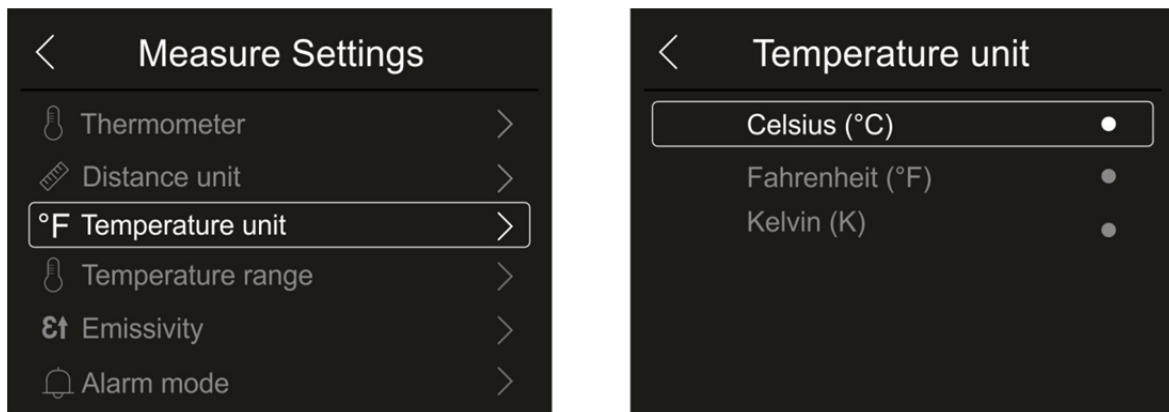

Fig. 25: Menu Setting the temperature measuring unit
1. Touch the item “Temperature unit” to set the measuring unit of temperature. The screen in Fig. 25 – right side appears on the display: